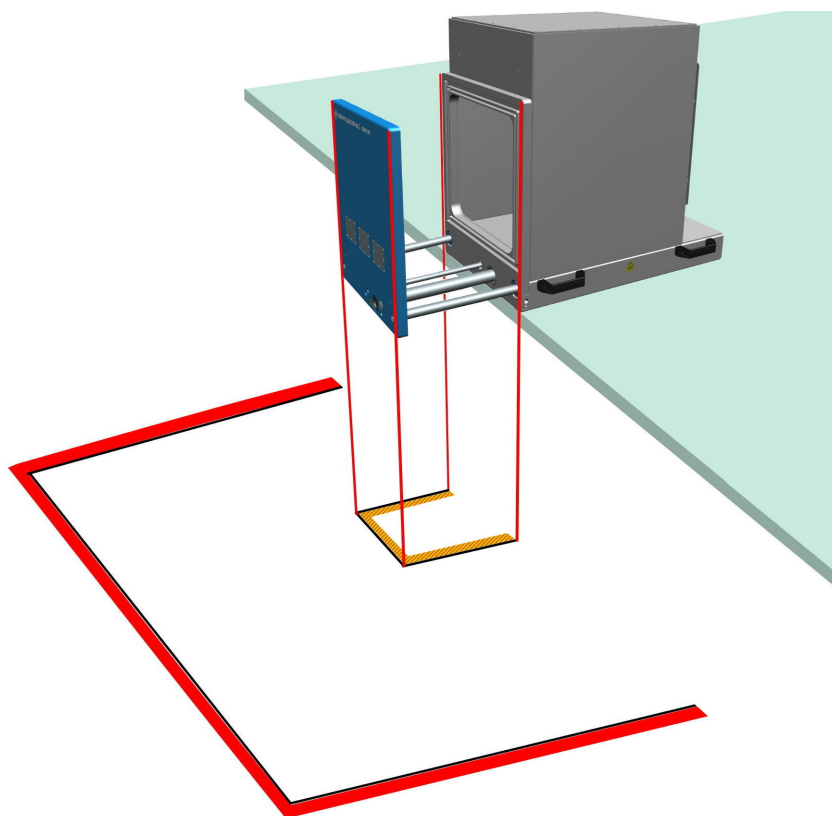

Figure 6-7: Zones of restricted access marked on the ground
5. Mark the door zone on the ground below the chamber's opened door, as shown in Figure 6-7.
8. Mark the work zone at a distance of 1 m outside from the *door zone* on the ground. See Figure 6-7.